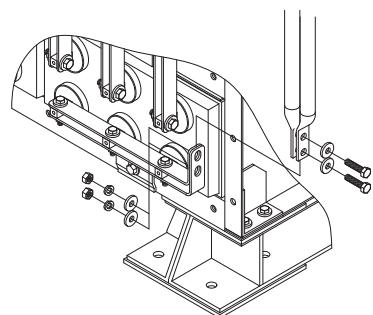

FIGURE 18d
7. Bolt lower terminal bars to the cell terminals before attaching cable(s). Attach cable(s) to the terminal bars as shown in Figure 18d.